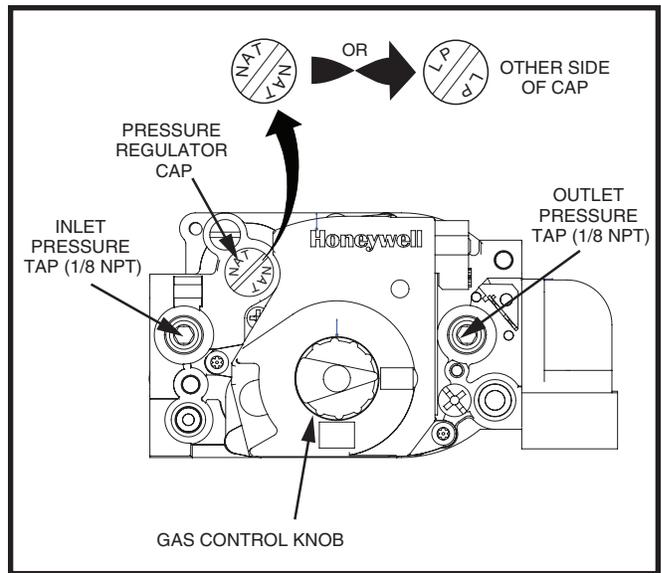
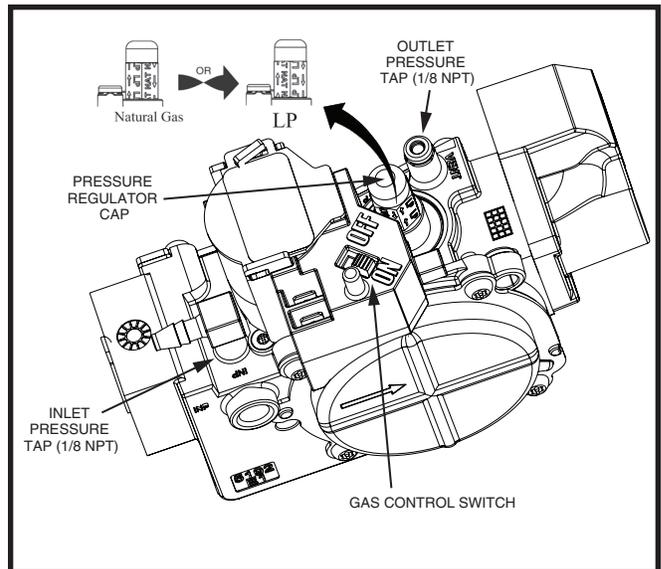

Figure 29. Honeywell/Resideo Gas Valve
Figure 30. Copeland Gas Valve
- Plugged tappings (1/8" NPT) for test gauge connection are present on the gas valve. See Figure 29 and Figure 30 for locations.
6. Unscrew the pressure regulator cap and check for the letters NAT or LP. See Figure 29 and Figure 30 \(page 17\).